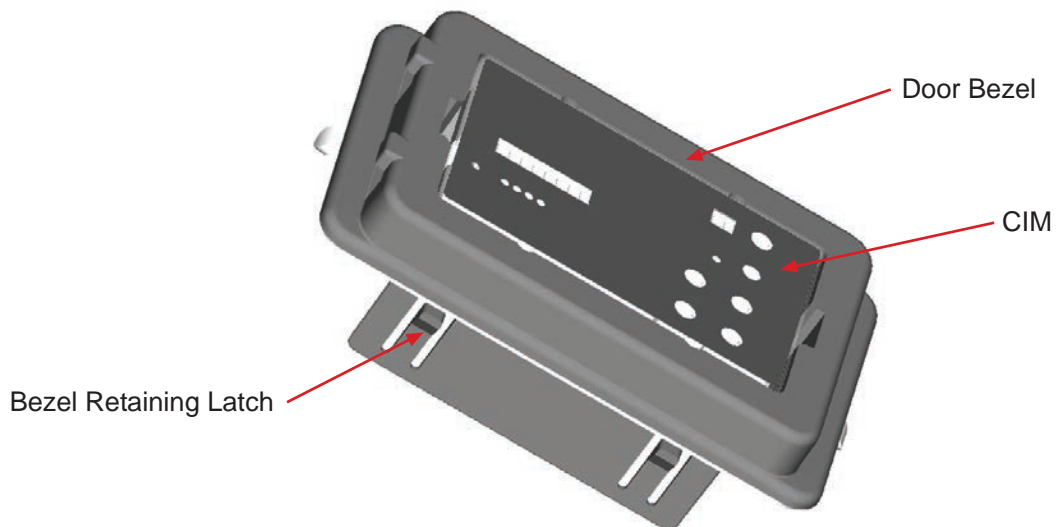

Figure 4.
8. Place the CIM or DIM into the pocket. See Figure 4.